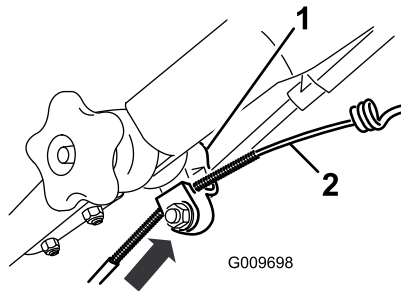

**Figure 45**
- Pull the cable jacket downward until you remove the slack in the exposed cable (Figure 45).